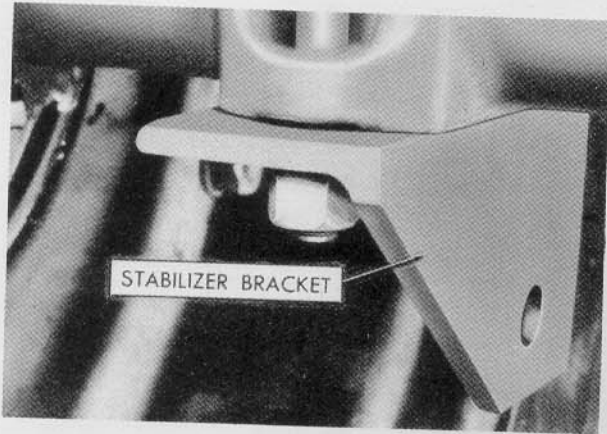

Figure 8
2. Bolt the stabilizer brackets, furnished in the carton, under the right and left rear tractor axle, as shown in Figure 8. Place the lock washers and nuts on bolts and tighten securely.